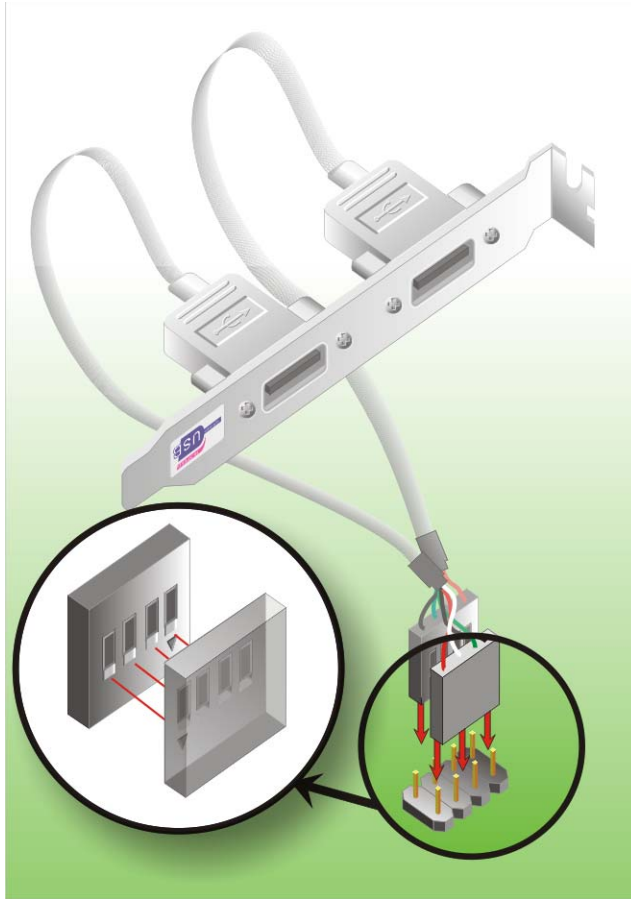

Figure 5-12: USB Cable Installation
Step 2: Insert the two 4-pin connectors from the module into the USB pin headers on the CPU card. (Figure 5-12)